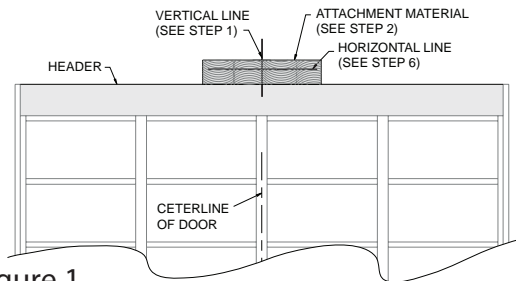

Figure 1
- 1) Measure the width of the door to determine the center. Make a vertical line above the door, as shown in **Fig. 1**. (If the vertical line is not in line with a door stile, a means of attaching the door bracket to the door must be provided. This can be accomplished by spanning the center of the door's top section (between the top and bottom rail) with a suitable material such as wood or steel).
- 2) Prepare for attaching drawbar to header. If suitable mounting surface is not already in place, securely affix a suitable material (wood, metal plate, angle irons, etc.) as shown in **Fig. 1**.